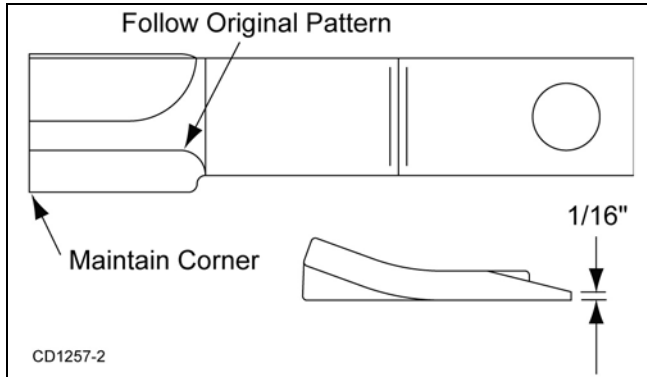

Figure 7. Blade Sharpening
2. Tighten four nuts (12) to remove pressure from the clutch plates (2). Repeat for all three clutches.
4. If clutches slip freely, completely loosen nuts (12).
5. If clutch does not slip freely, disassemble and clean plates (4, 6, & 7), flange yoke (1), and clutch hub (3).
7. Tighten Belleville spring (5) with nuts (11) until it is against the thrust plate (4) of the clutch. Back off each of the four nuts (11) until gap between Belleville spring and thrust plate is .236" as shown in Figure 7.
8. If a clutch continues to slip when the spring is compressed to .236" gap, check friction discs (2) for excessive wear. Discs are 1/8" when new. Replace discs after 1/16" wear. Minimum disc thickness is 1/16".